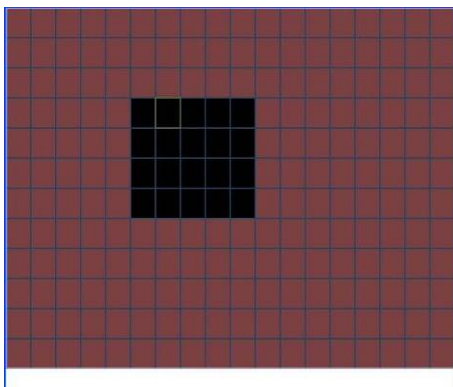

Figure 4-23
- Region: Click select button, the interface is shown as in Figure 4-23. Here you can set motion detection zone. There are 396(PAL)/330(NTSC) small zones. The green zone is current cursor position. Grey zone is the motion detection zone. Black zone is the disarmed zone. You can click Fn button to switch between the arm mode and disarm mode. In arm mode, you can click the direction buttons to move the green rectangle to set the motion detection zone. After you completed the setup, please click ENTER button to exit current setup. Do remember click save button to save current setup. If you click ESC button to exit the region setup interface system will not save your zone setup.
In Figure 4-23, you can left click mouse and then drag it to set a region for motion detection.